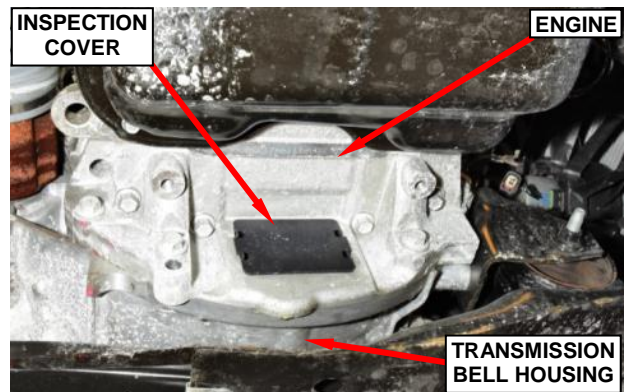

Figure 28 – Inspection Cover
92. Remove and save the transmission inspection cover (Figure 28).